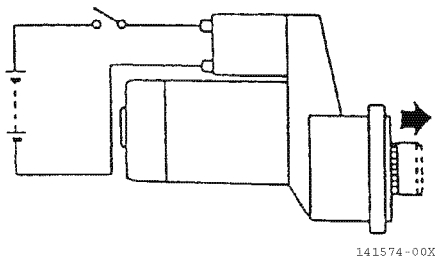

Figure 11-33
4. Turn the switch ON and measure the pinion moving distance L in the thrust direction (Figure 11-33). Perform this test within 10 seconds. See *Starter Motor Specifications* on page 11-5 for the service limit.